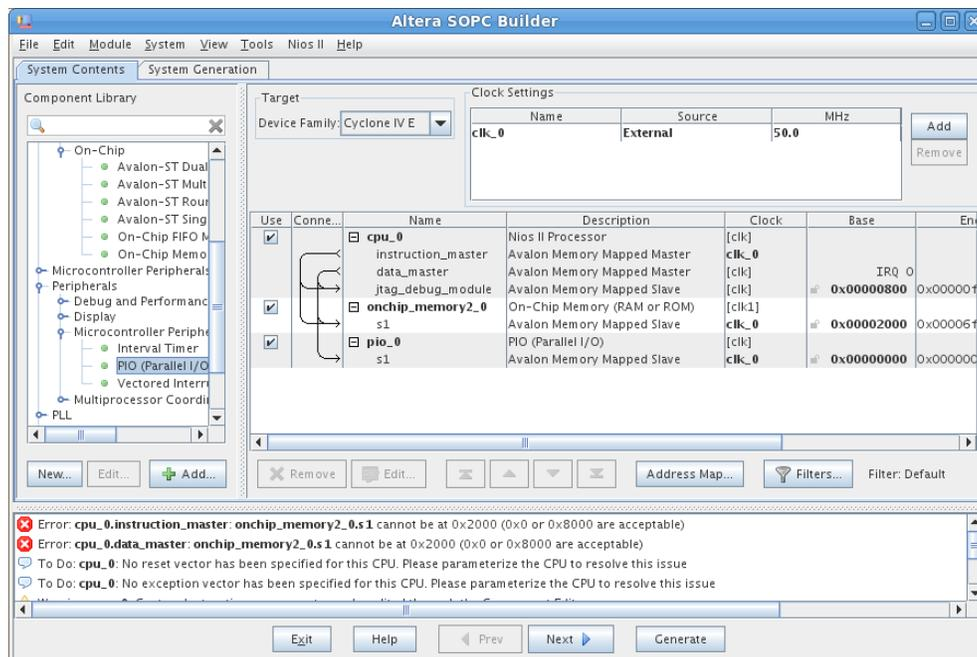

Figure 12. The parallel input interface is included.
- Click Finish to return to the System Contents tab as given in Figure 12